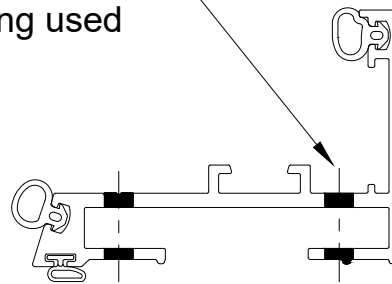
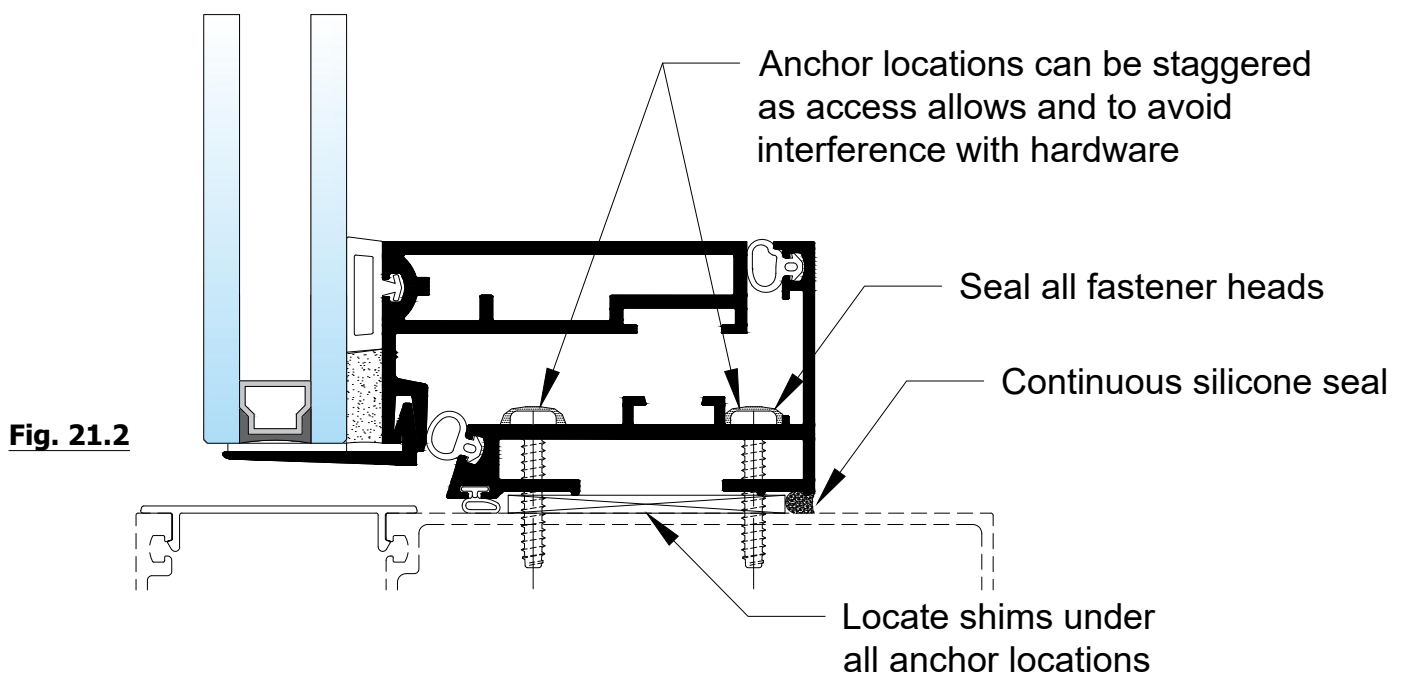

Fig. 21.1
Fig. 21.2
2. Drill clearance holes in window frames using the correct size drill for the anchor fasteners being used. Anchors are required no more than 4" from each corner and at centerline if dimension is greater than 30" or located per approved shop drawings. Anchor locations can be staggered to avoid interference with hardware and as access allows. See **Fig. 21.1 & Fig. 21.2**